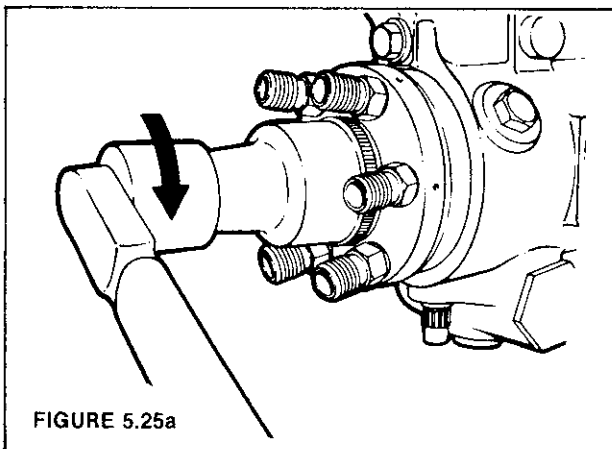

FIGURE 5.25a
STEP 25 Insert end cap plug tool in the end cap and tighten the end cap to specified torque, using appropriate end cap wrench (Figure 5.25a).